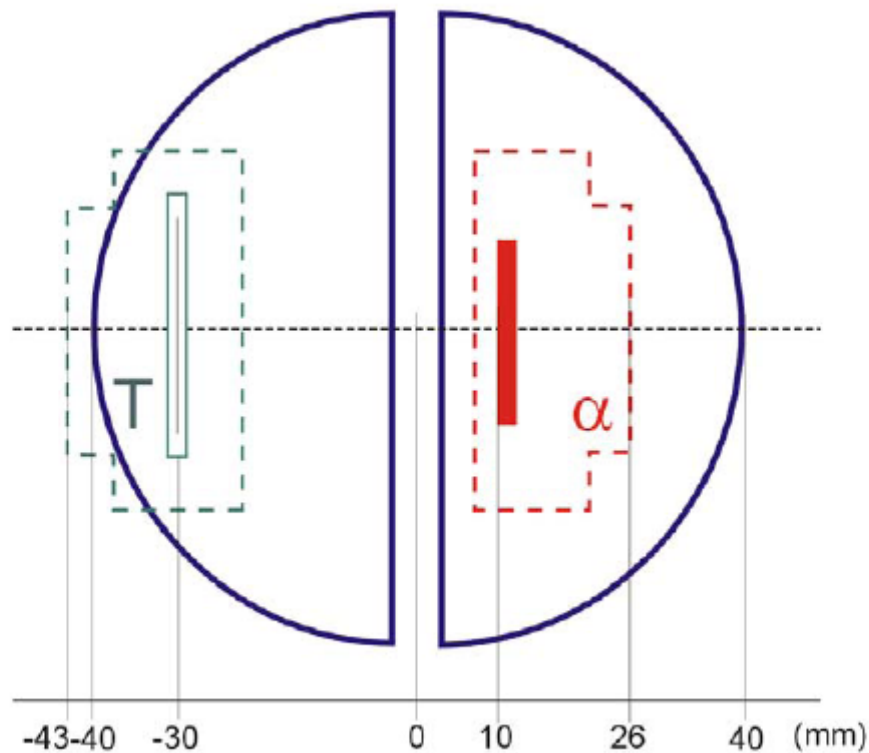

Fig. 2. Top view of the source package (a) facing the corresponding detector. The distance between source and sense element is optimized for the Bragg peak.
The detector is housed in a stainless steel cylinder with 1 mm wall thickness (see Fig. 1). Each source package is inserted inside a slit holder between two circular plates, facing a small detector in front. These locations are clearly visible in the structure. The isotopes used are ²⁴¹Am each with an activity of 90 kBq at the time of production in 2001. The final configuration of the sources is depicted in Fig. 2. The device is brought to the Radioactive-Sources Service (RP) for insertion and removal of the sources.